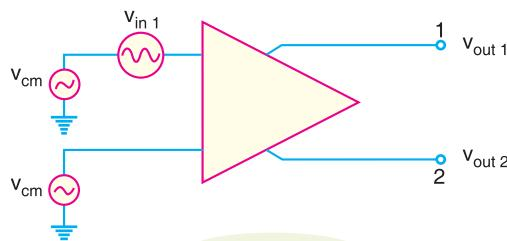

Fig. 25.14
**Example 25.5.** The differential amplifier shown in Fig. 25.14 has a differential voltage gain of 2500 and a CMRR of 30,000. A single-ended input signal of 500  $\mu\text{V}$  r.m.s. is applied. At the same time, 1V, 50 Hz interference signal appears on both inputs as a result of radiated pick-up from the a.c. power system.
(iii) In Fig. 25.14, the differential input voltage is the difference between the voltages on input 1 and that on input 2. Since input 2 is grounded, its voltage is zero.